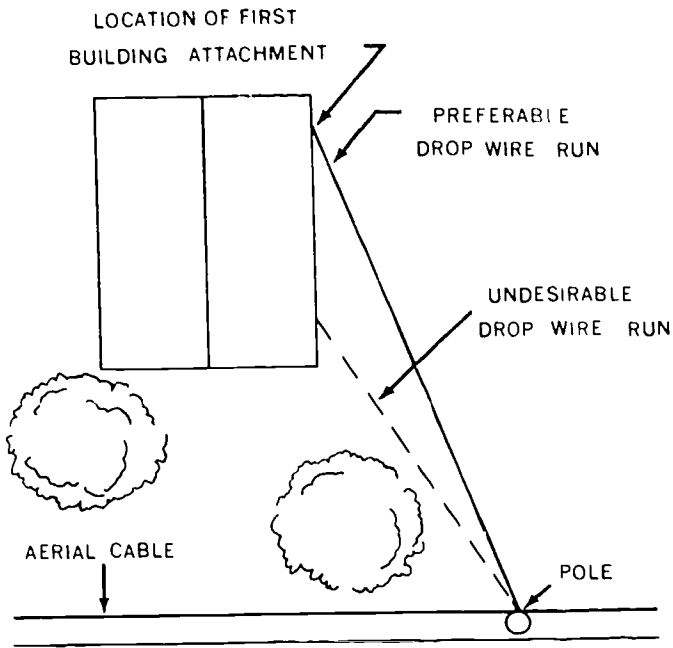
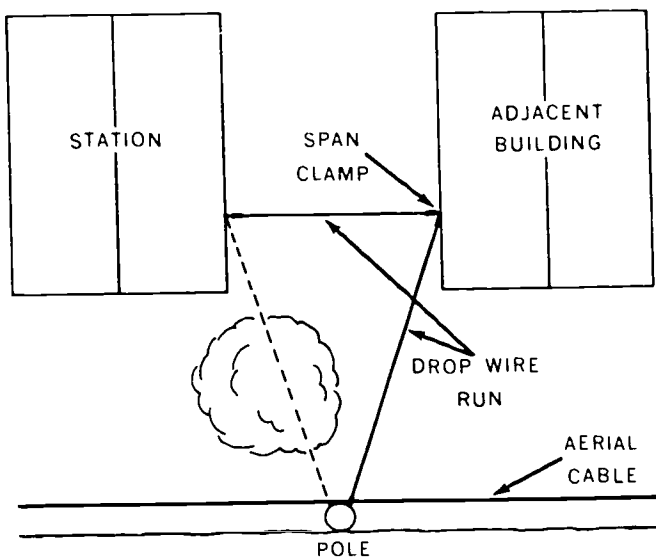
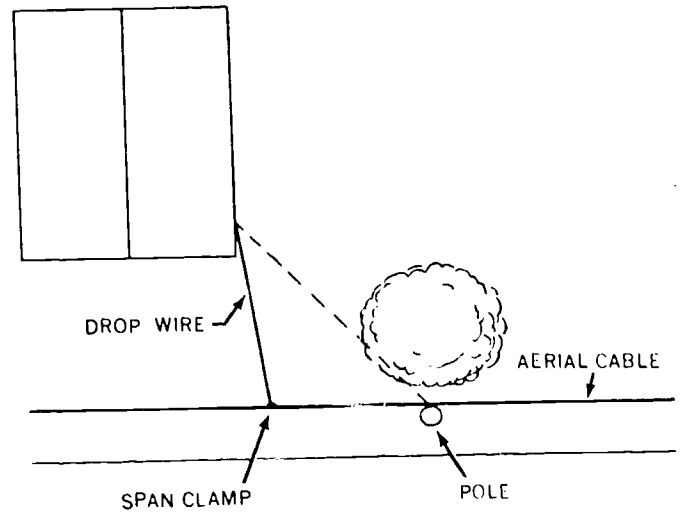

Figure 1-8. Avoiding tree by selection of building attachment.
Figure 1-9. Avoiding tree by use of span clamp.
Figure 1-10. Avoiding tree by use of additional attachment.
In planning the drop wire run, you must consider its appearance and decide whether or not the installation might cause accidents. For example, the drop should not run over areas where future building work is expected, and it should be kept away from window fronts. If the wire will pass too close to existing objects or through tree branches, plan a route for the wire which will provide the proper clearance. This may be done as illustrated in figures 1-8, 1-9, and 1-10.
In figure 1-8, the installer avoided a tree by considering the location of the first building attachment. In figure 1-9, a tree has been avoided by attaching the drop to an adjacent building. Furthermore, in figure 1-10, a tree has been avoided by using a span clamp to attach the drop wire to the aerial cable. In planning an installation, you must use many alternatives, such as those illustrated in these figures, to provide the proper wire clearance.
1. What is the consideration most evident in the installation of figure 1-8?
3. What did the plan for the drop wire run of figure 1-9 call for?
4. Compare the installation arrangement of text figure 1-10 to that of figure 1-8.